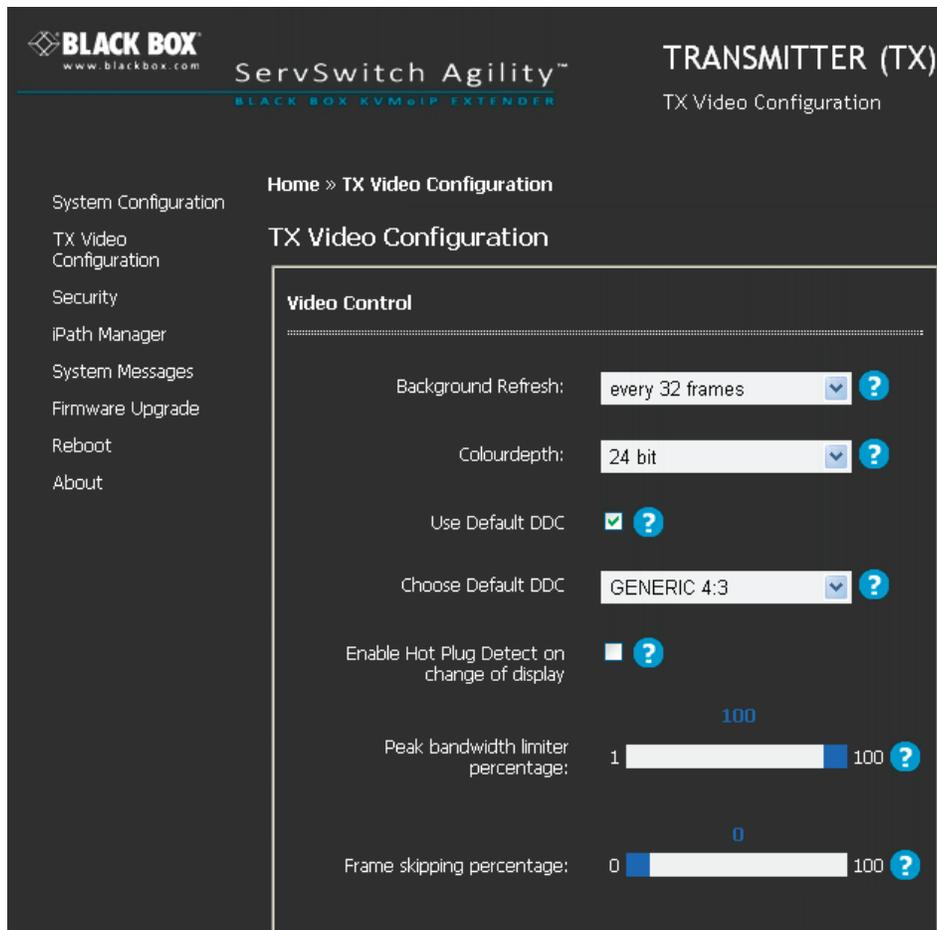

Figure 4-7. Video Configuration page.
- 3 Click Update Now to apply each setting change. See Figure 4-7.